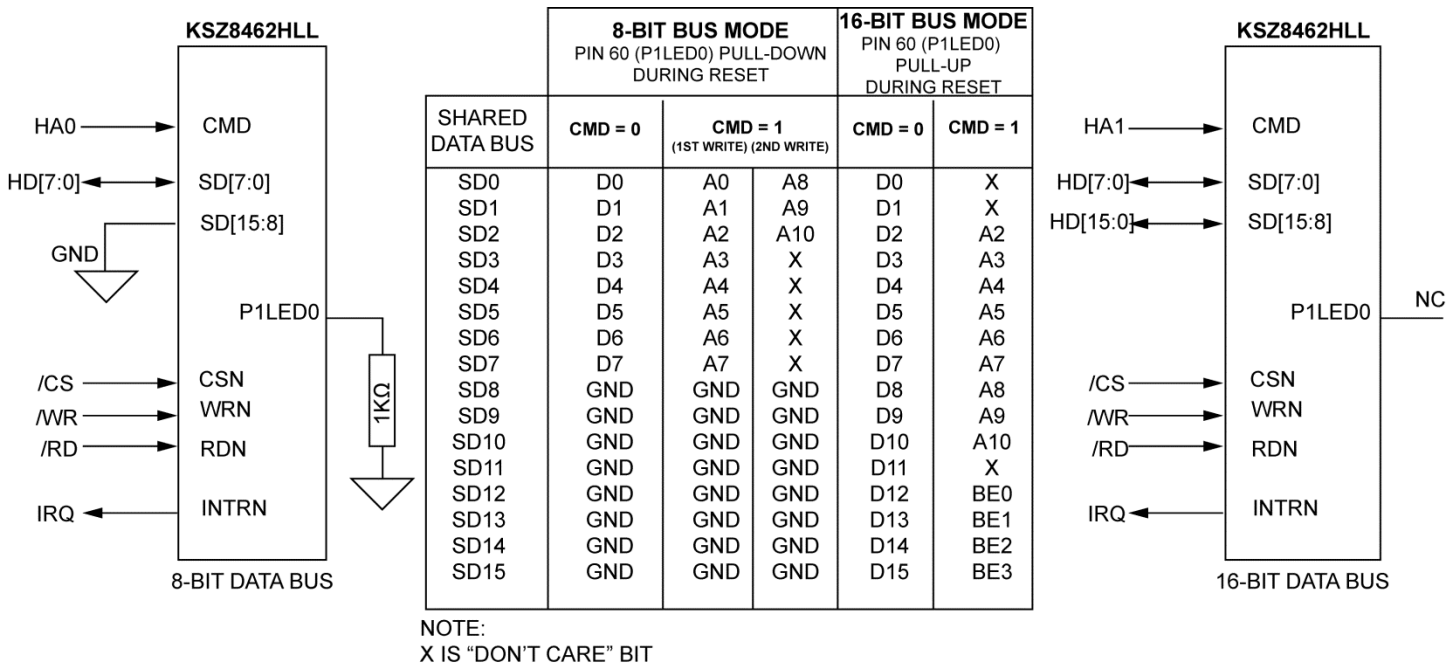

Figure 14. KSZ8852 8-Bit and 16-Bit Data Bus Connections
Figure 14 shows the connection for different data bus sizes.
- As shown in Figure 14, the address bits A[10:2] are on SD[10:2].